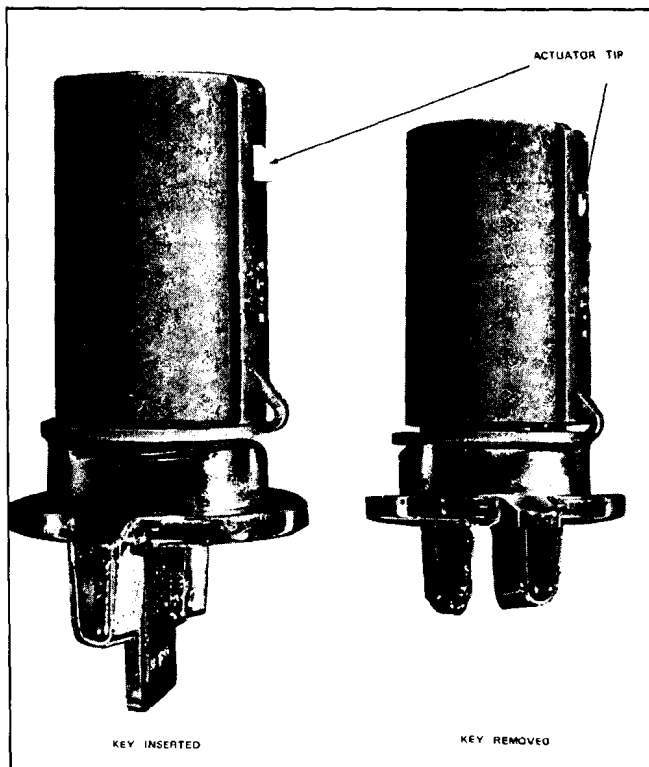

Fig. 12-4 Lock Cylinder Actuator Tip
2. Lock Cylinder Inspection - Remove the lock cylinder and check the actuator tip when the key is fully seated and removed (Fig. 12-4).